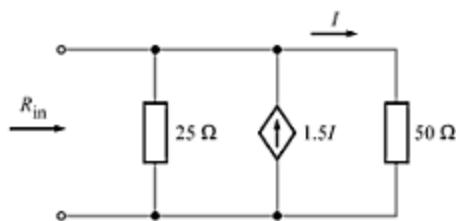

Fig. A-103
- A-67. Find the input resistance  $R_{in}$  in the circuit of Fig. A-103. [Ans. 33.3 Ω]